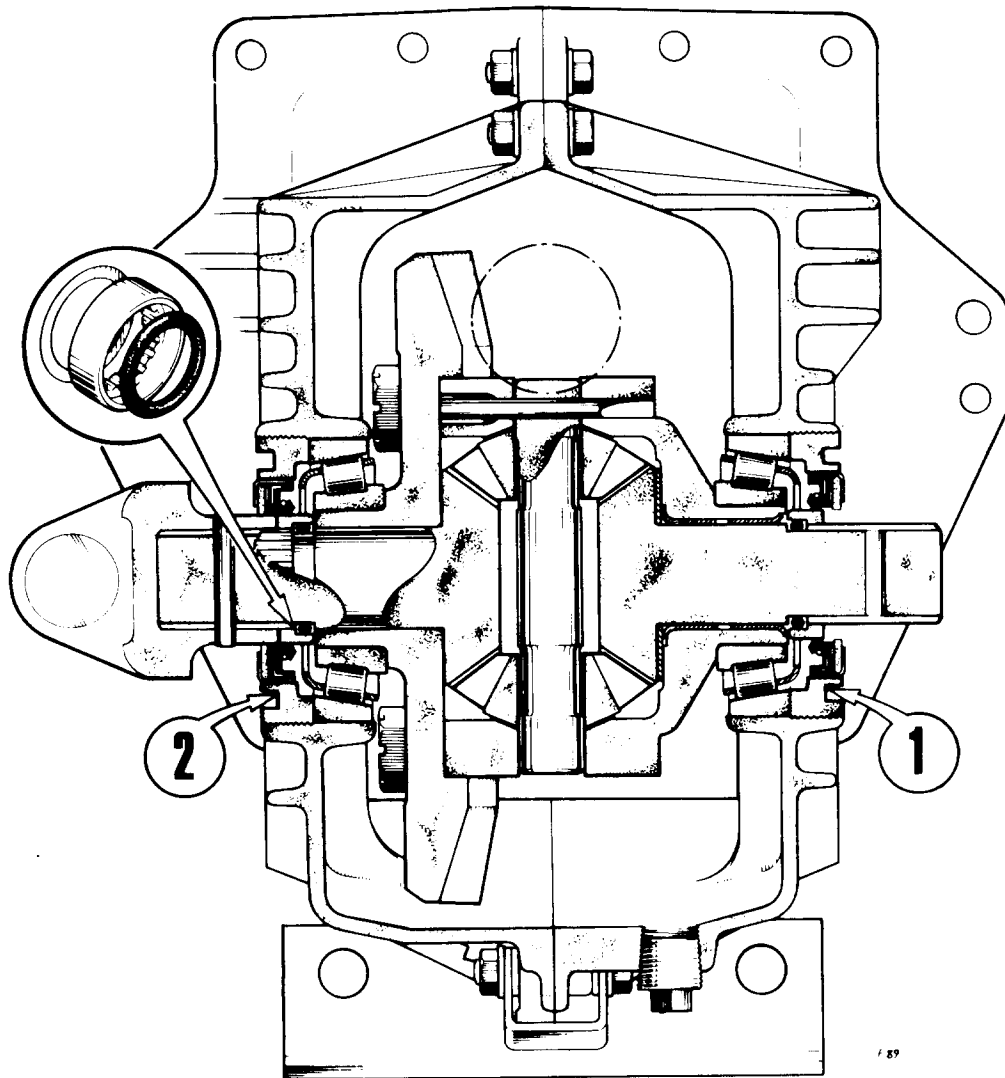

Fig. 44.
The adjustment is obtained by screwing nuts (1) and (2) in or out. (see Fig.44.)
Continue to screw in the nuts which push in the bearing track rings. Take care to screw in nut 2 (Fig. 44.) on the differential housing side a little more than the one on the other side in order to obtain a crown wheel and pinion back lash which is slightly larger than that required on final assembly.
The backlash is obtained by screwing nut (2) on the differential housing side in or out and screwing nut (1) on the opposite side in or out by the same amount. (See Fig. 44.)